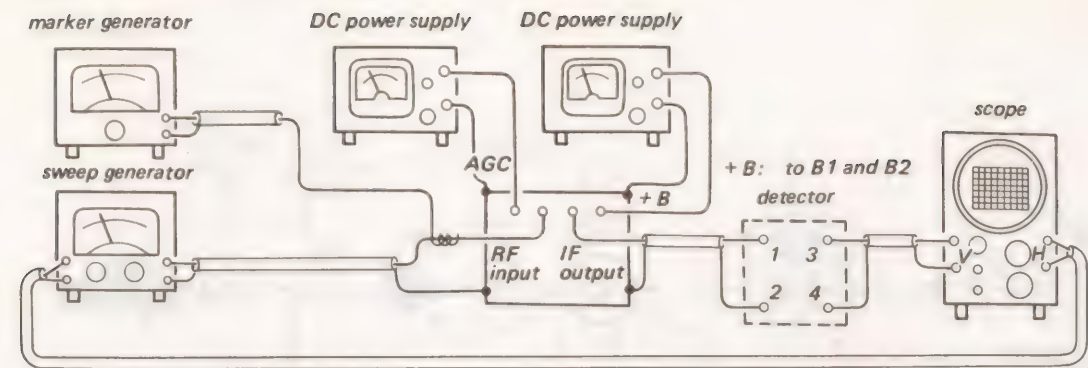

Fig. 5-15. Equipment setup
1. Connect a sweep generator and a marker generator to rf input terminal of tuner as shown in Fig. 5-15.
2. Connect a scope to i-f output terminal through a detector as shown in Fig. 5-15.
3. Connect a dc power supply to +B terminal for supplying 12 V dc. (See Fig. 5-15.)
4. Connect an another dc power supply to agc terminal for supplying 1.6 V dc. (See Fig. 5-15.)